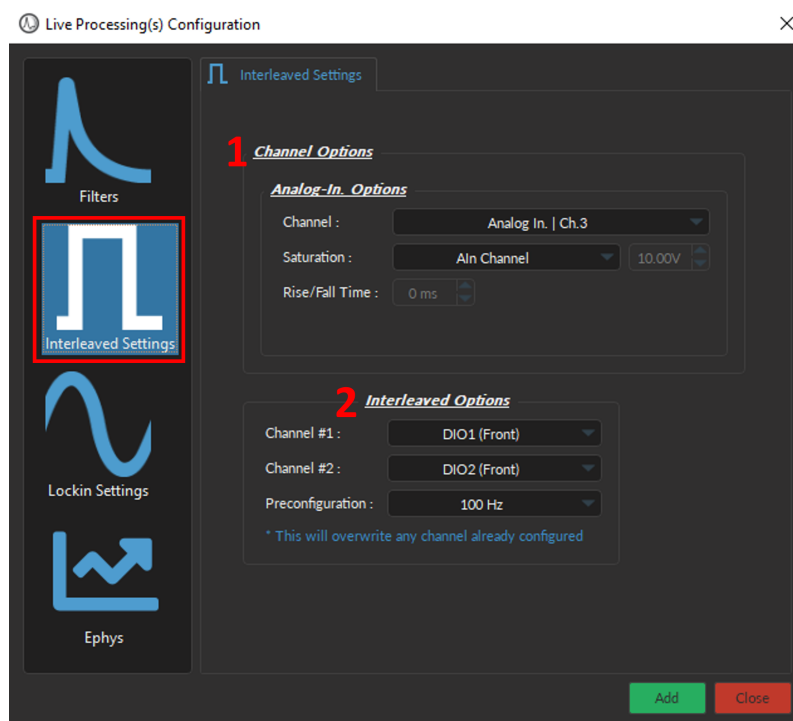

Figure 11.76: Live Processing, Interleaved
1. The **Channel Options** (Fig. 11.76, 1) contains the following parameters:
2. The **Interleaved Options** (Fig. 11.76, 2) contains the following parameters: